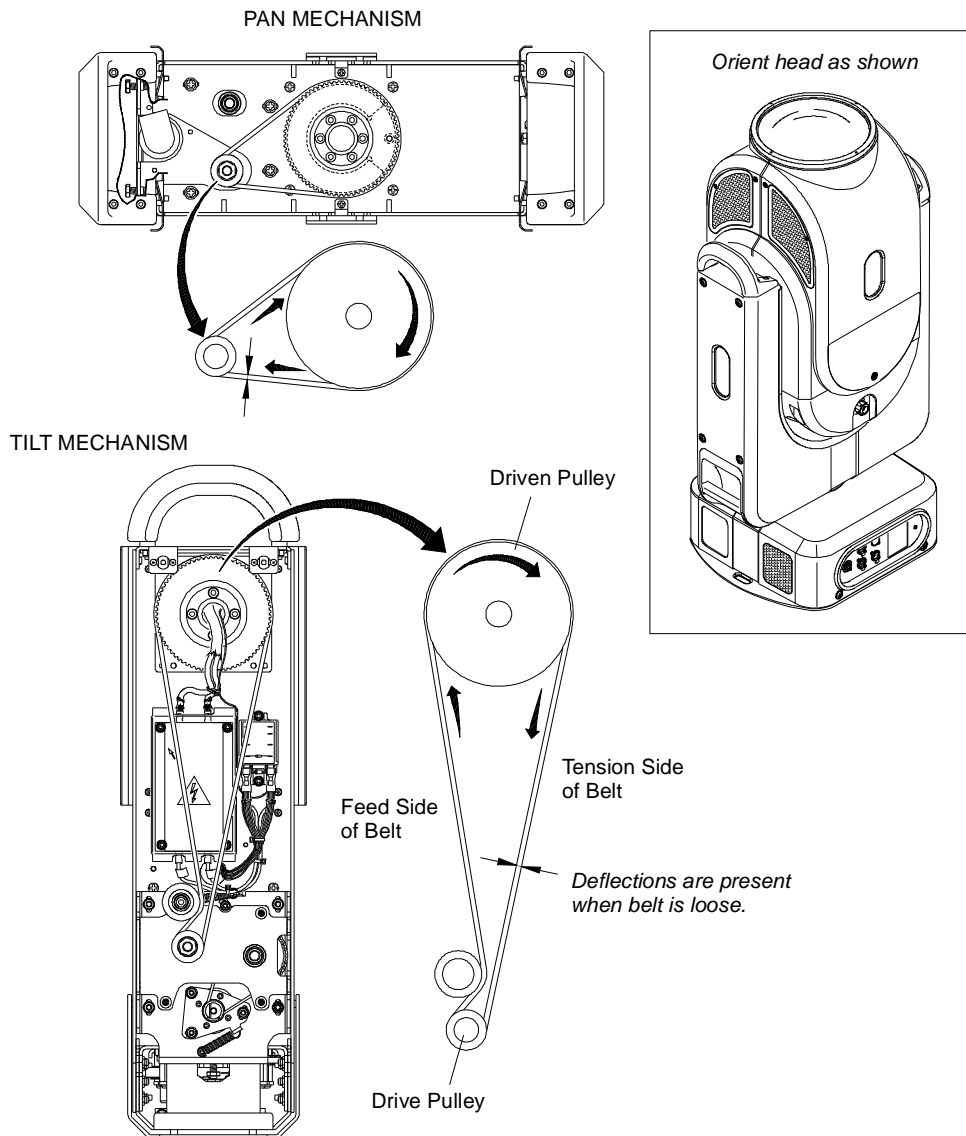

Figure 3-43: Belt Tension Adjustment
- Step 2. Orient head as shown in **Figure 3-43** on next page.
- Step 1. Orient head as shown in **Figure 3-43**.